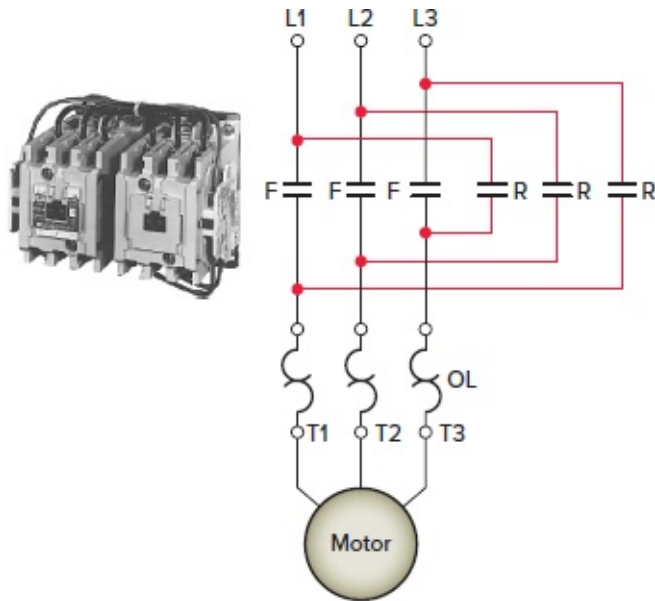

Figure 5-42 Power circuit for reversing a three-phase motor.
- Interchanging any two of the three main power lines to the motor reverses the direction of rotation. Figure 5-42 shows the power circuit for reversing a three-phase motor. The forward contacts F, when closed, connect L1, L2, and L3 to motor terminals T1, T2, and T3, respectively. The reverse contacts R, when closed, connect L1, L2, and L3 to motor terminals T3, T2, and T1, respectively, and the motor will now run in the opposite direction.